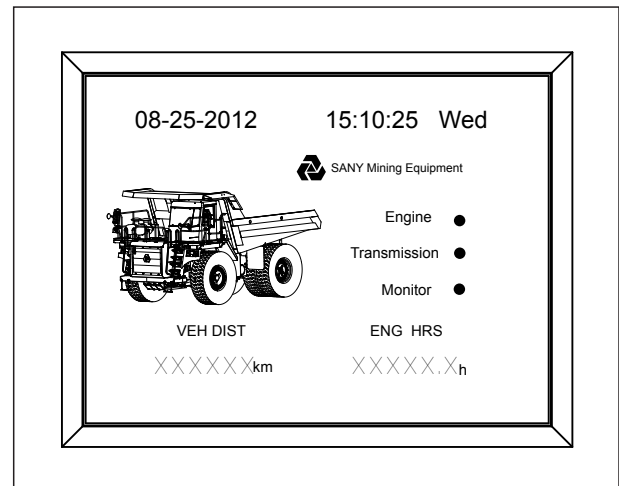

Fig 3-3.2
2. Click F2 key to change from work interface to system function interface, and the work interface is default(see fig3-3.2).